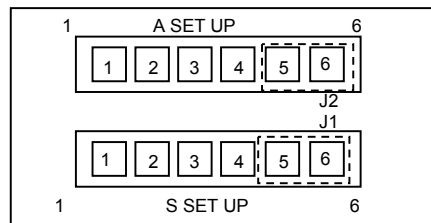

Figure 25
16. Position the jumpers on pins **5** and **6** of the **J1 (S SET UP)** and **J2 (A SET UP)** headers. (Refer to Figure 25)